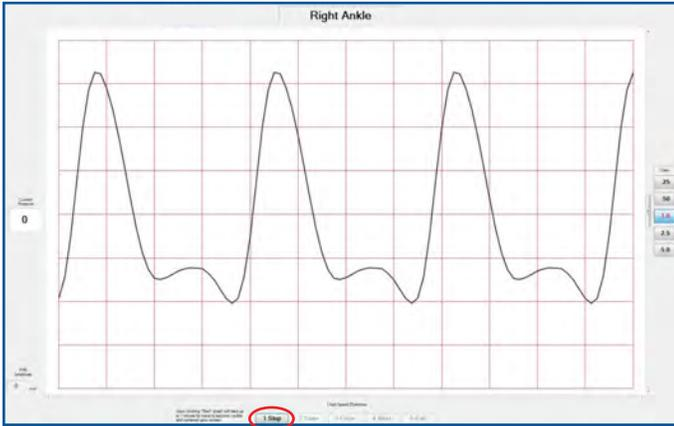

FIGURE 1.36 - Right Ankle - “Stop” Button
53. After a full screen of consistent quality waveforms has appeared, click “Stop” (“Start” button changes to “Stop”), or press 1 (Figure 1.36, next page).